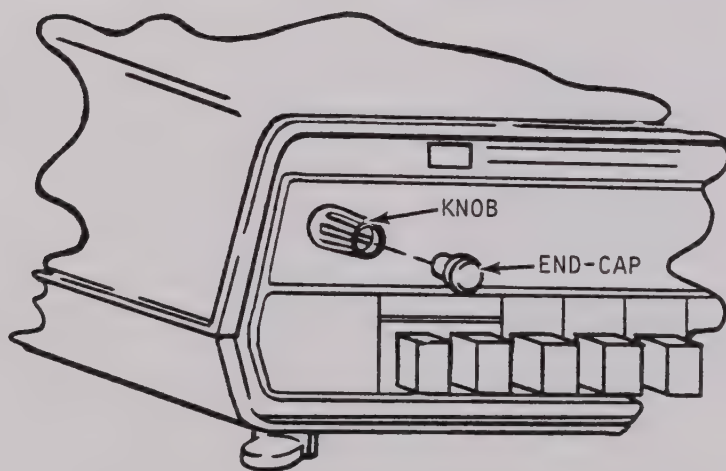

FIGURE 6-3. Front Panel Zero Knob Removal.
- a. Carefully remove the end-cap (shown in Figure 6-3) using a thin-bladed instrument.